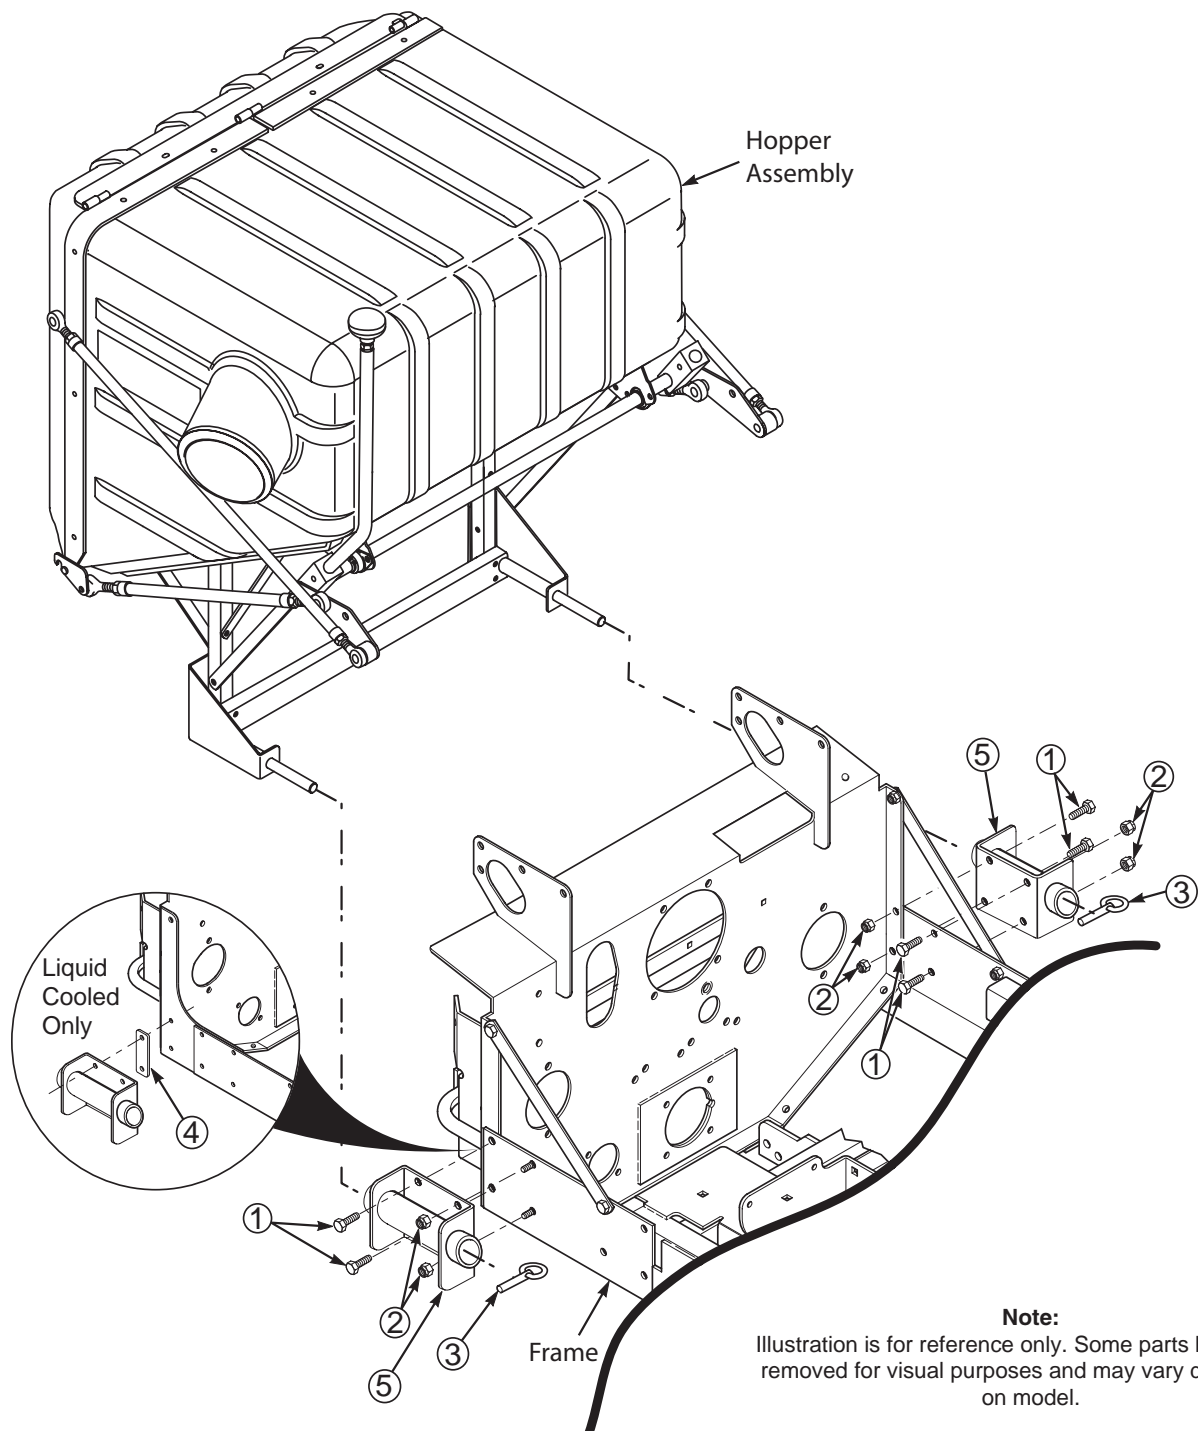

FIGURE 5-6
12. Install the hopper mounting brackets (p/n 451512 & p/n 451595) to the outside of the frame on the rear of the machine using 3/8-16 x 1" hex head bolts (p/n 04001-19) and 3/8-16 elastic stop nuts (p/n 04021-09). See Figure 5-6, Page 15.
14. With the help of an assistant, install the hopper assembly into the hopper mounting brackets. See Figure 5-6, Page 15.
13. Install the hopper mounting brackets (p/n 451512 & p/n 451595) to the outside of the frame on the rear of the machine using 3/8-16 x 1" hex head bolts (p/n 04001-19) and 3/8-16 elastic stop nuts (p/n 04021-09). See Figure 5-6, Page 15.
15. With the help of an assistant, install the hopper assembly into the hopper mounting brackets. See Figure 5-6, Page 15.